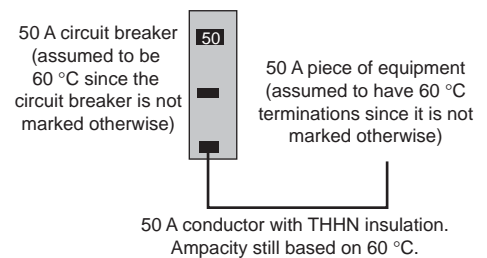

Figure 4: Conductors with Higher Temperature Ratings
- b. Conductors with higher temperature ratings, provided the ampacity is determined based on the 60 °C ampacity of the conductor (see Figure 4).